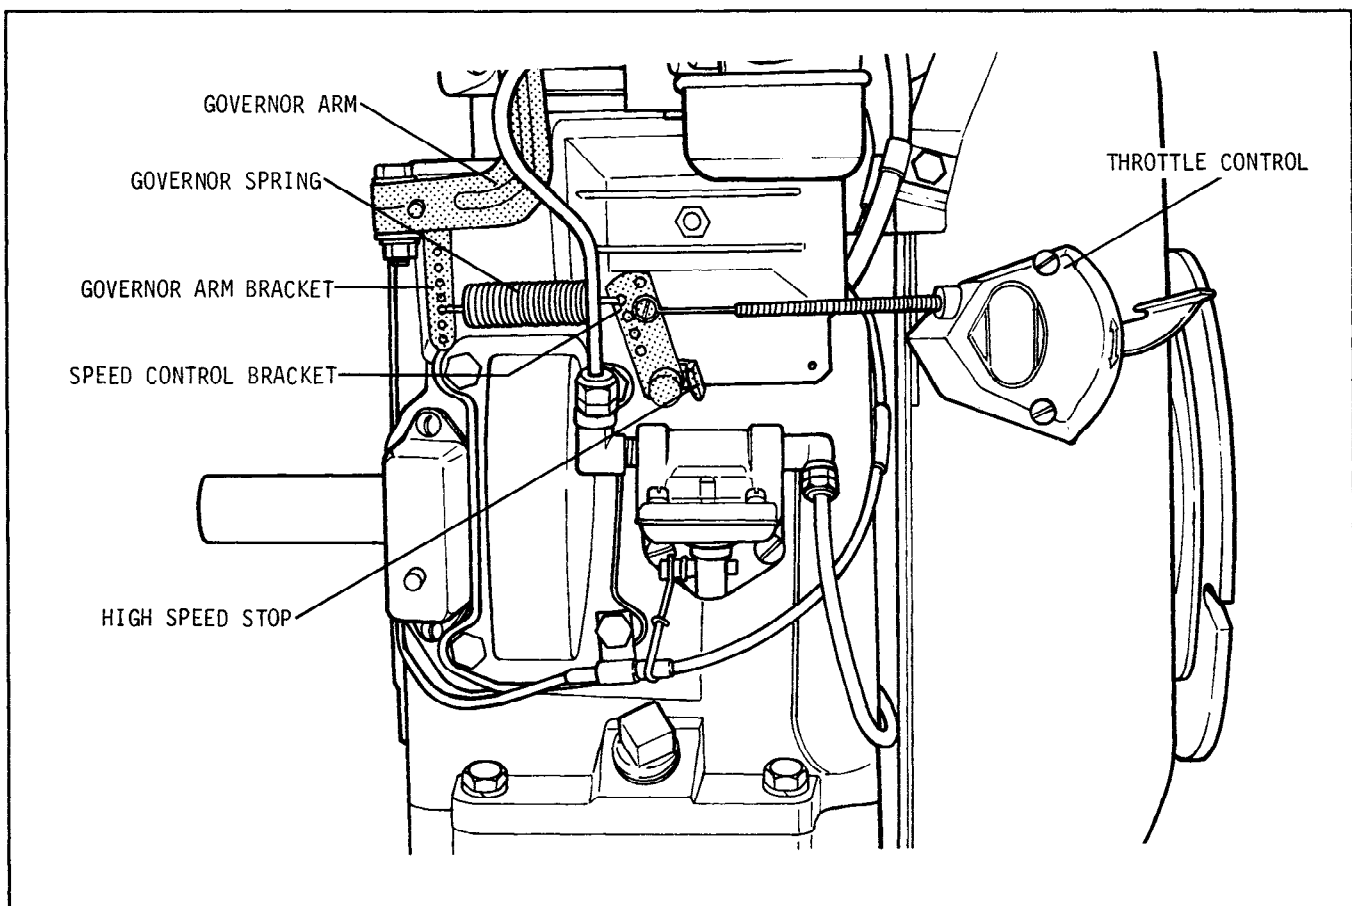

Figure 6-48. Variable Speed Governor.
Install a throttle for variable speed applications as follows. Refer to Figure 6-48.
1. Mount the throttle control or throttle cable clamp on the blower housing as shown in Figure 6-48.
Adjust the governed speed of these models as follows. Refer to Figure 6-48.